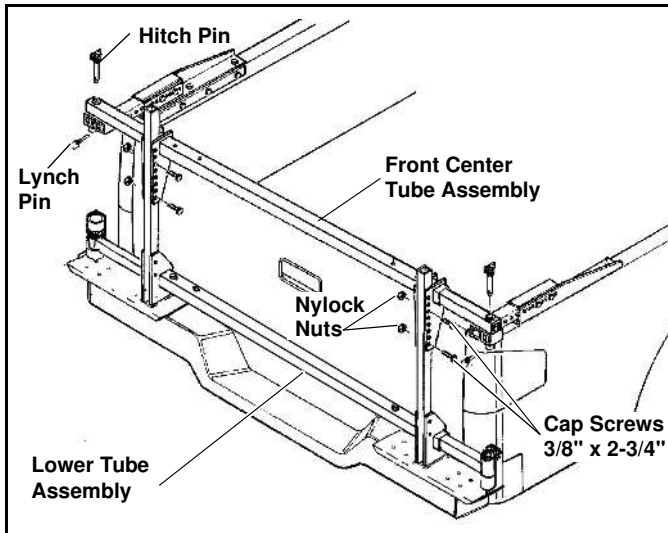

Figure 1-10
13. Place the Lower Tube Assembly, with Pivot and Latch Assemblies, on the vehicle bumper with the Vertical Support Tubes lined up with mounting holes in the Mounting Plates of the Front Center Tube Assembly. Install two (2) 3/8" x 2-3/4" Cap Screws through holes in each Vertical Tube and Mounting Plate. Secure loosely with Nylock Nuts provided. (See Figure 1-10)